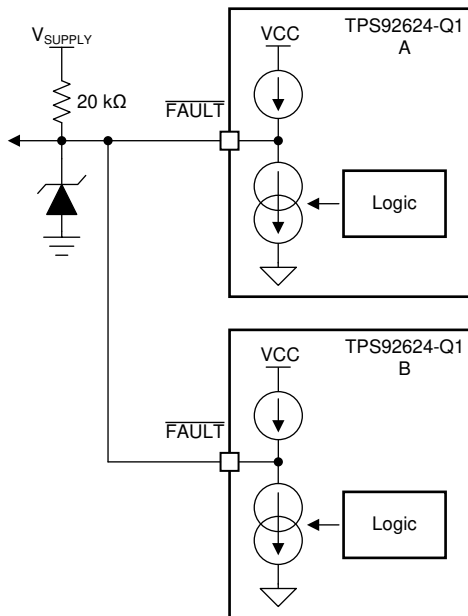
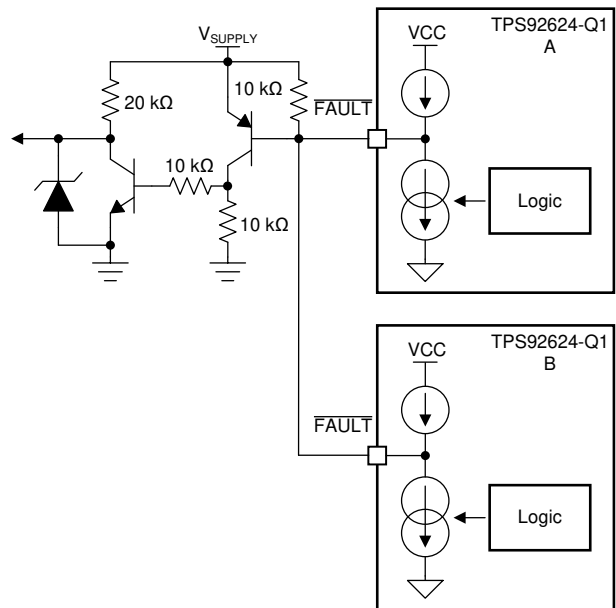

图 7-6. FAULT Bus for One-Fails-All-Fail Application
图 7-7. FAULT Bus for One-Fails-Others-On Application
Based on this feature, the TPS92624-Q1 device is able to construct a FAULT bus by tying FAULT pins from multiple TPS92624-Q1 devices to achieve one-fails-all-fail function as 图 7-6 showing. The lower side TPS92624-Q1 (B) detects any kind of LED fault and pulls low the FAULT pin. The low voltage on FAULT pin is detected by upper side TPS92624-Q1 (A) because the FAULT pins are connected of two devices. The upper side TPS92624-Q1 (A) turns off all output current for each channel as a result. If the FAULT pins of each TPS92624-Q1 are all connected to drive the base of an external PNP transistor as illustrated in 图 7-7, the one-fails - all-fail function is disabled and only the faulty channel device is turned off.